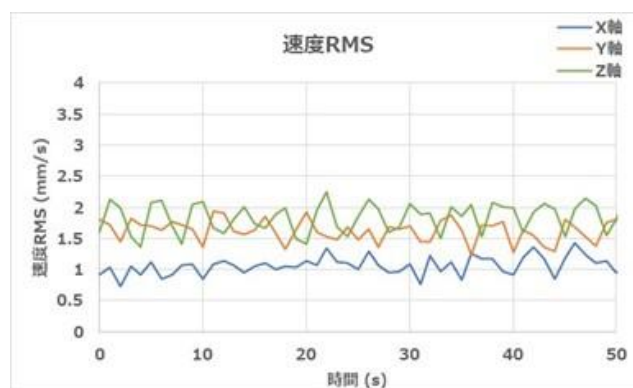

Figure 1.2 A342/A542 Velocity RMS Output
- Figure 1.2 shows an example of the A342/A542 Velocity RMS Output.